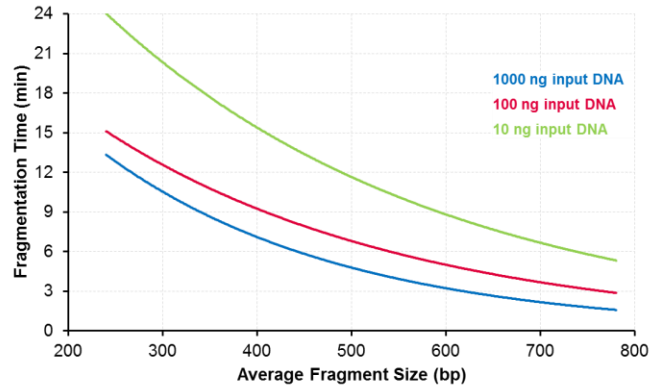

Figure 1: Fragmentation profile of different amount of input DNA
* **Note:** The exact reaction time may need to be optimized for different amount of input DNA. The table above serves as a general guideline to help decide the starting point for optimization of the reaction time in order to achieve the desired fragment size. For initial optimization we recommend including 2 additional time points, one is 3 minutes longer and another one is 3 minutes shorter. Fine-tuning may be required if precise fragment size is critical. For more detailed guidance, please refer to Figure 1 in Appendix II.
For input DNA ≤10 ng, to shorten the reaction time, we recommend adding 2.5 µl of Enhancer to the final reaction (50 µl) and use half of the reaction time determined from the fragmentation profile of 10 ng input DNA in the Figure 1. For example, to produce fragment size centers around 350 bp, after adding the Enhancer, a 10 minute incubation of the reaction usually generates expected result.